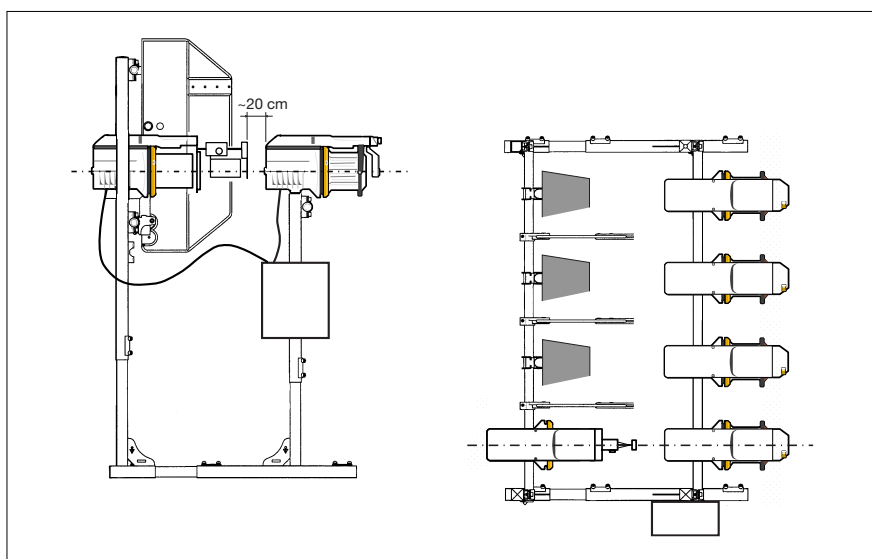

fig. 2
3. By means of a second clamp **"A"**, install the Low Twist unit on the **"B"** bracket and align it to the Weft Feeder device (fig. 2).